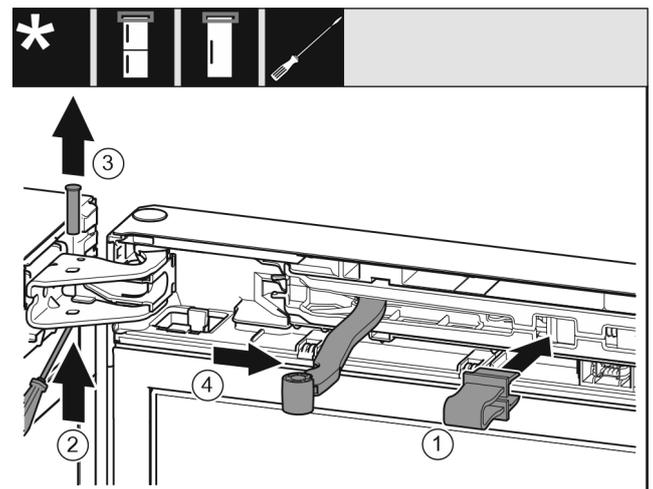

Fig. 12
- Latch safeguard Fig. 12 (1) into opening.
- Slide out the bolt Fig. 12 (2).
- Remove the bolt Fig. 12 (3) upwards.
- Turn the joint Fig. 12 (4) towards the door.